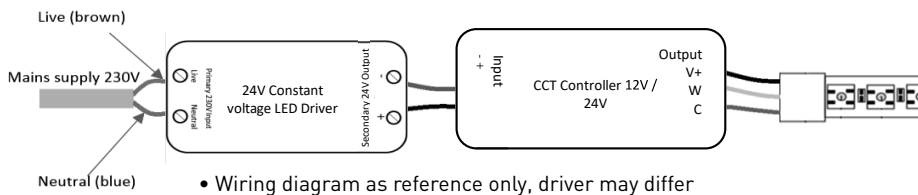

Fig 2
- From the secondary side of the driver connect a red and black cable to the input side of the CCT controller ensuring correct polarity is observed (+ Red) (- Black) (see Fig 2)
- Terminate cables from the CCT Flex to the CCT controller (red to V+) (yellow to W) (white to C) (see Fig 2)